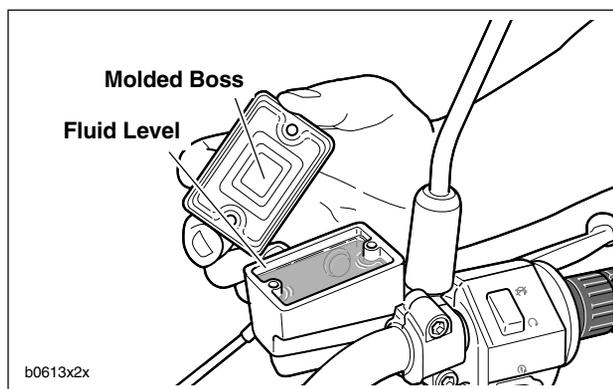

Figure 1-11. Checking Brake Fluid (Switch shown uncovered for clarity)
- c. Remove cap and gasket from rear master cylinder reservoir. Bring fluid level to between upper and lower marks on reservoir. See Figure 1-11.